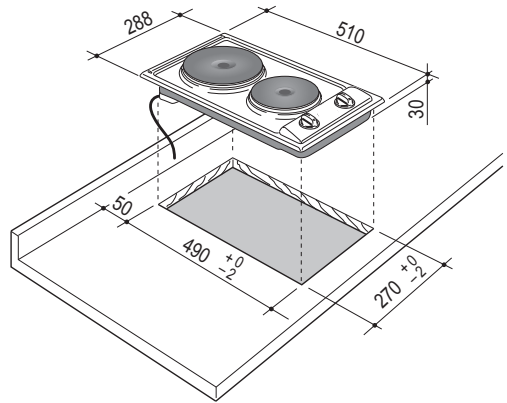

Fig. 1.1
- the cooker top must be kept at a distance of no less than 50 mm from the rear wall (fig. 1.1);